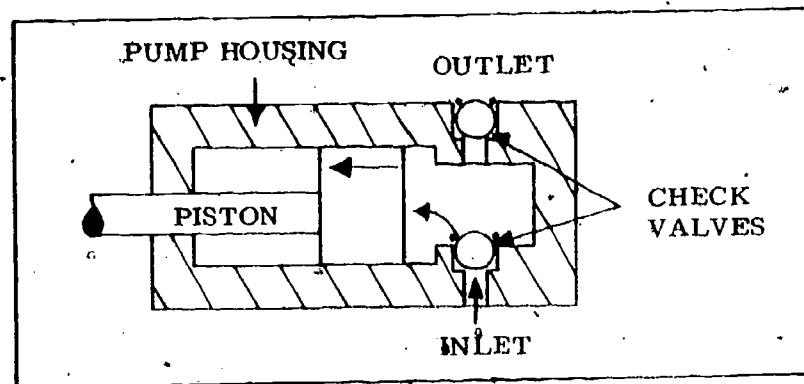

Fig 4-5. Reciprocating-type pump.
- (c) Reciprocating-type pump. A simplified reciprocating (plunger) is illustrated in fig 4-5. There are many variations of this simple pump, but the principles of operation are basically the same. It is a cylinder equipped with an inlet and outlet check valve and a piston. For some applications, the check valves are replaced by ports which are opened and closed by the pump piston or by another piston. One such application is the brake system master cylinder. Some hydraulic engine governors also use this type pump. These pumps are normally used where large volumes are not required. As the piston moves away from the inlet port, a partial vacuum allows the liquid to force the inlet check valve open and fill the cylinder. When the piston starts in the opposite direction, the pressure builds up and forces the inlet valve closed and the outlet valve open.